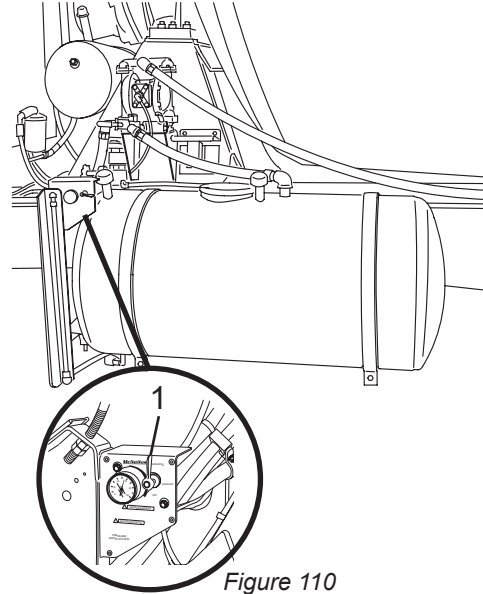

Figure 110
4. Turn the air pressure control valve (Figure 110, Item 1) to the PRESSURIZE position to start the pump.
To stop the pump, turn the air pressure control valve (Figure 110, Item 1) to the OFF position.